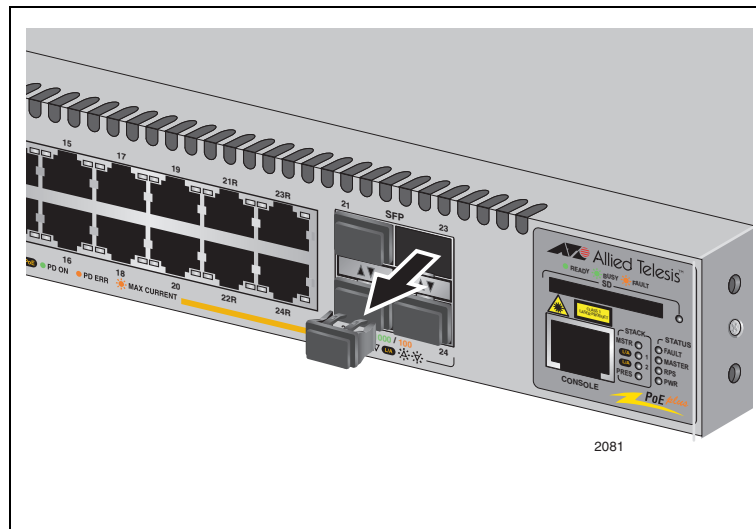

Figure 69. Removing a Dust Plug from an SFP Slot
1. Remove the dust plug from a transceiver slot on the switch, as shown in Figure 69.